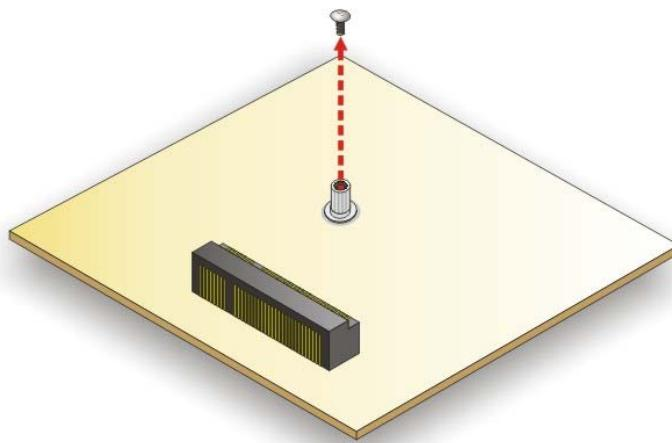

Figure 3-17: Removing the Retention Screw
Step 4: Remove the retention screw. Remove the retention screw for half-size card installation as shown in Figure 3-17.